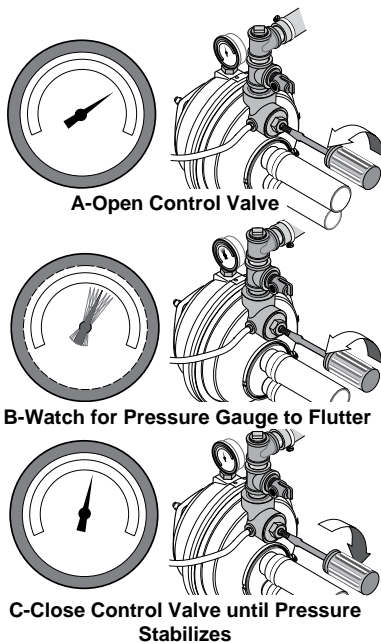

Figure 20: Set Control Valve
5. When water pressure has built up and is maintained by the pump, slowly open the control valve (see Figure 20) while watching the pressure gauge needle. Continue opening the valve until the valve is fully open or you see the pressure gauge needle start to flutter. If the needle starts to flutter, slowly close the valve just enough to stop the flutter. Your pump is now operating at peak efficiency.